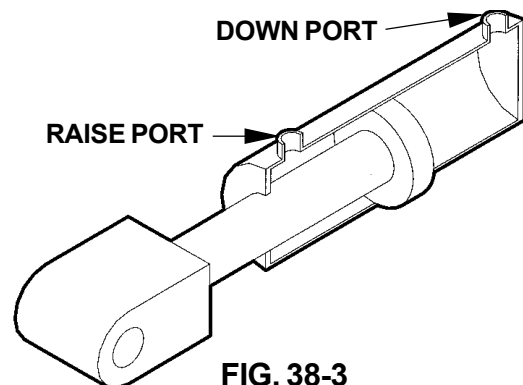

FIG. 38-3
3. Check the Hydraulic Cylinder. With the Platform on the ground, remove the hydraulic line from the Down Port of the Cylinder (**FIG. 38-3**). Raise the Platform even with the bed. Allow pump motor to run two seconds more while you watch for hydraulic fluid at the Down Port. A few drops of hydraulic fluid escaping the Down Port is normal; however, if it streams from the Down Port, Piston Seals are worn. Replace Seals.